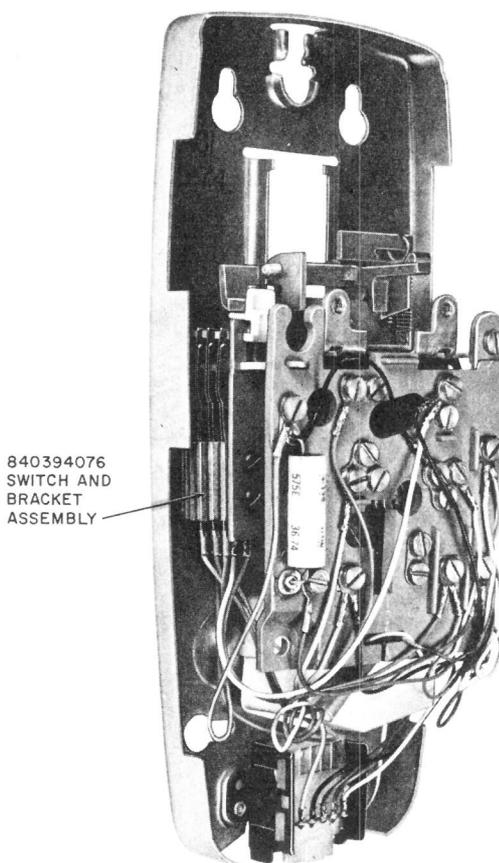

Fig. 10—Interior View of AC-Type Telephone Base
- Current AC-type bases are equipped with a new line switch coded 840394076 switch and bracket assembly (Fig. 10).